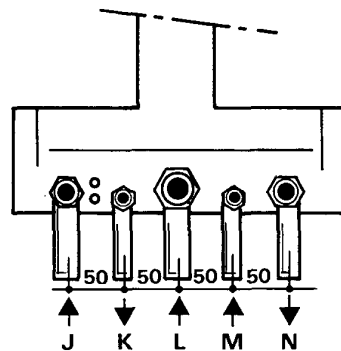

Fig. 22
- Fit copper tails and washers to jig plate, the mains water inlet tail (M) is the shorter of the two 15 mm tails (fig. 22).
The safety valve is mounted below the heating return (J) (fig. 22) isolating valve.